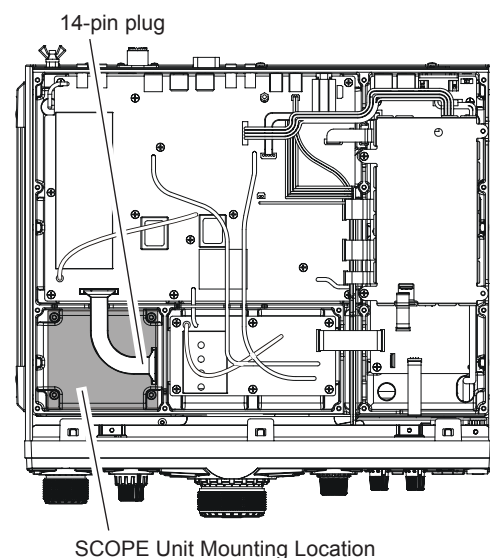

FIGURE 2
3. Refer to Figure 2 for the mounting location of the SCOPE Unit. There is a disconnected 14-pin plug.